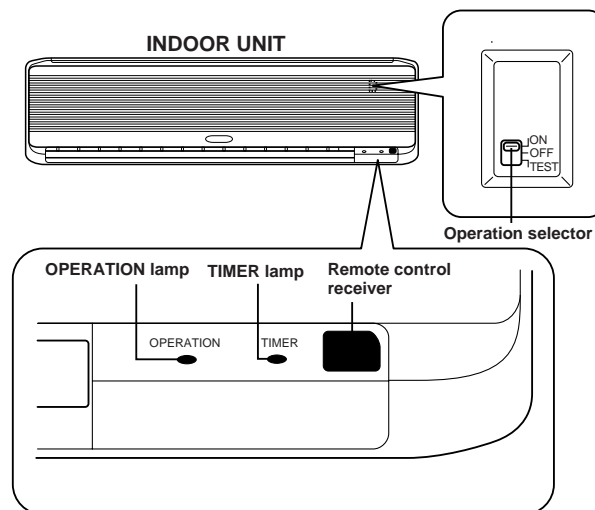

Fig. 7
3. Set the operation selector switch of the indoor unit to the TEST position. This starts the fan, producing uncooled forced air. (Fig. 7)
5. After stopping the test run, turn the operation selector switch of the indoor unit to the OFF position once, then move to ON position. (Fig. 7)